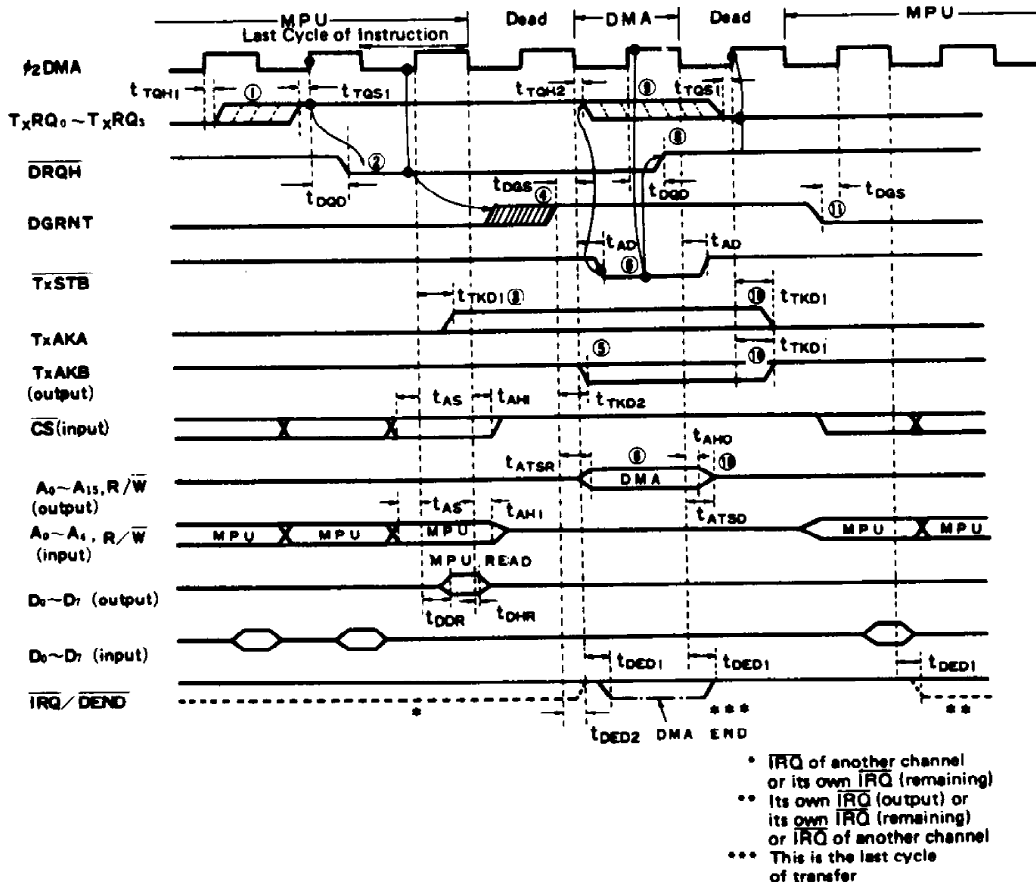
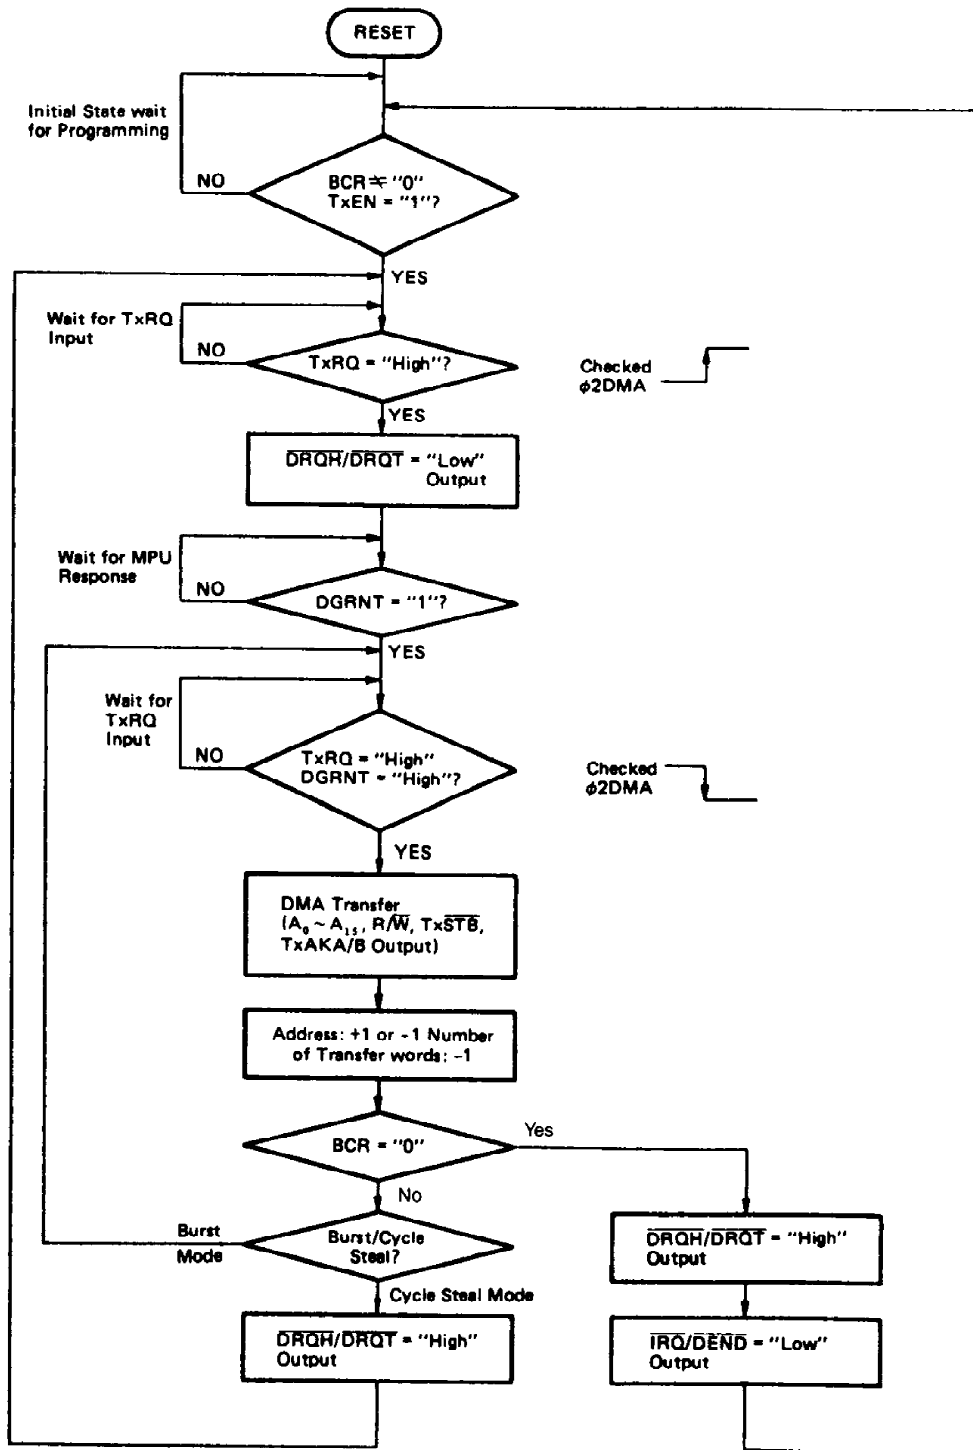
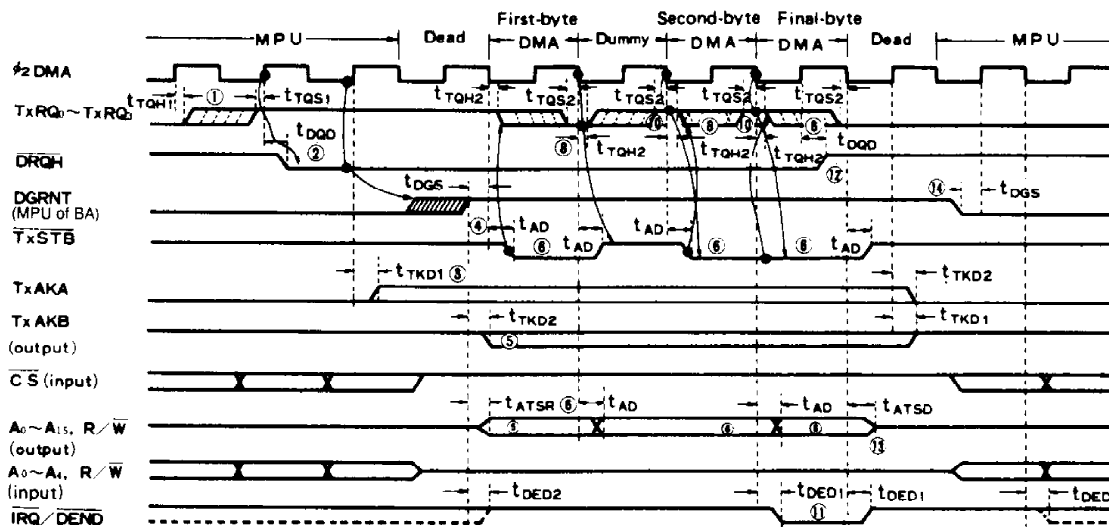
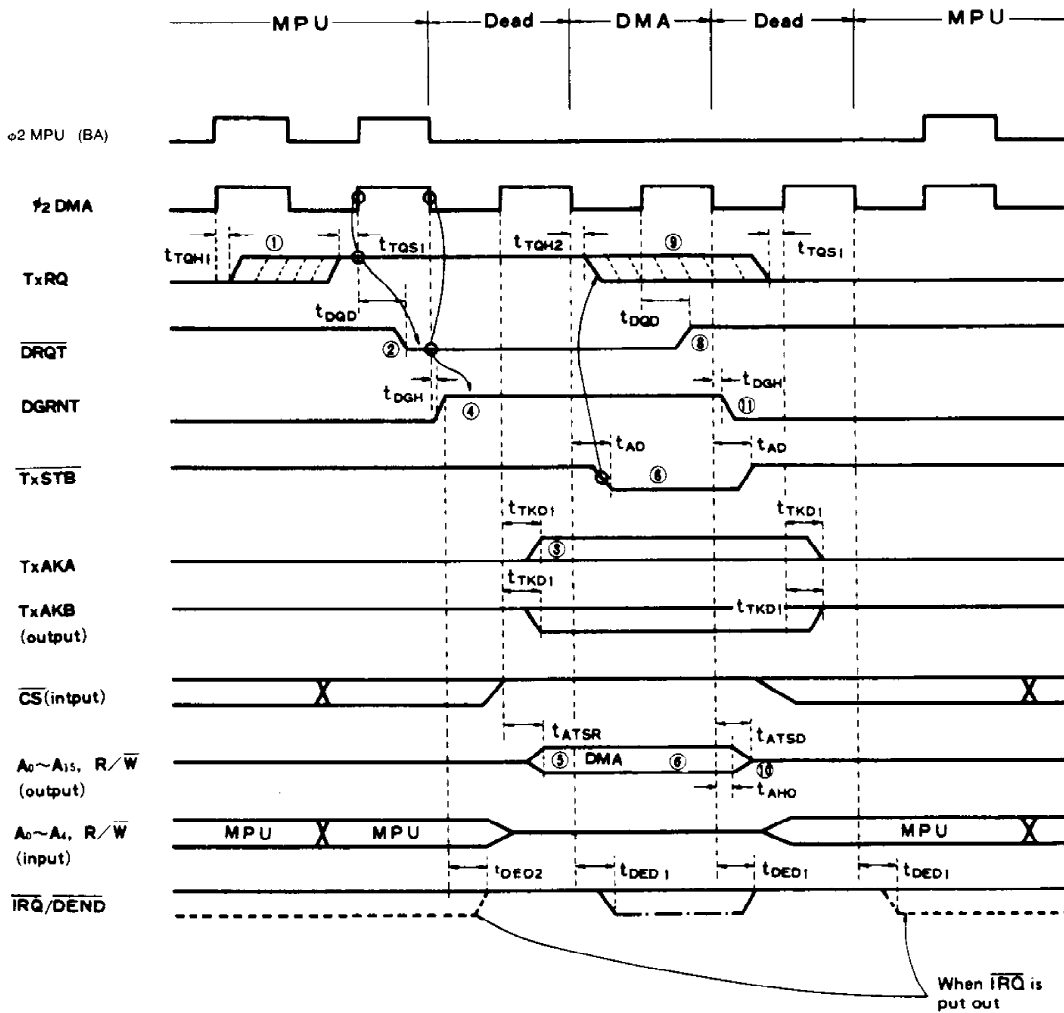

Figure 12 HALT Cycle Steal Mode
Figure 13 Flow Chart of DMAC Operation
Figure 16 HALT Burst Mode
Figure 17 TSC Cycle Steal Mode
Timing chart is shown in Fig. 12 and flow chart is shown in Fig. 13. Procedure of transfer operation is the following. (No. ① ~ ⑭ in Fig. 12 correspond to the following items.)
- ① TxRQ₀~TxRQ₃ input is checked at the rising edge of ϕ_2 DMA. When it is at "High" level, it gets into the following operation.
- ② \overline{DRQH} ="Low" is output and MPU is requested to stop its operation.
- ③ TxAKA is driven (Level output).
- ④ MPU stops its operation and DMAC waits until DGRNT goes to "High" level.
- ⑤ When DGRNT goes to "High" level, DMAC drives TxAKB, A₀~A₁₅ and R/W lines.
- ⑥ TxSTB is given to perform DMA transfer.
- ⑦ Address is incremented or decremented by one and number of transfer words is decremented by one.
- ⑧ When \overline{DRQH} rises to "High" level, MPU gets into Instruction Cycle again.
- ⑨ TxRQ falls to "Low" level.
- ⑩ A₀~A₁₅ and R/W get into high impedance state again.
[Note] TxRQ₀~TxRQ₃ input in HALT cycle steal is, in principle as shown in Fig. 12, set to "High" every 1-byte transfer on account of I/O request. When TxSTB of the DMAC is driven, it is reset to "Low". Take care not to be against this principle, or the following states may happen.
Its timing chart and flow chart are shown in Fig. 16 and Fig. 13 respectively. Procedure of transfer is the following (No. ① ~ ⑭ in Fig. 16 correspond to the following items).
- ① TxRQ input is checked at the rising edge of ϕ_2 DMA. When it is at "High" level, it gets into the following operation.
- ② \overline{DRQH} ="Low" level is given and MPU is requested to stop its operation.
- ③ TxAKA is driven.
- ④ MPU stops and DMAC waits for DGRNT rising "High" level.
- ⑤ When DGRNT rises "High" level, DMAC drives TxAKB, $A_0 \sim A_{15}$, and R/ \overline{W} lines.
- ⑥ TxSTB is sent out to perform DMA transfer.
- ⑧ TxRQ falls to "Low" level.
- ⑨ When number of transfer words is 0, from ⑪ to ⑭ operations are performed.
- ⑩ When BCR is not "0", TxRQ is checked at the falling edge of ϕ_2 DMA. When TxRQ is at "High" level, DMA transfer is performed through ⑥ ~ ⑧ again. When TxRQ is not at "High" level, DMAC waits for becoming "High" level.
In burst mode, TxRQ should be also, in principle, set to "High" when I/O request is asserted, and reset to "Low" when TxSTB goes to "Low". If TxRQ is asserted as level input without being reset, DMA transfer is performed at all cycles of ϕ_2 DMA since TxRQ is always at "High" level at the falling edge of ϕ_2 DMA. Its example is shown in the second-byte and the third-byte transfer in Fig. 16.
Its timing chart and flow chart are shown in Fig. 17 and Fig. 13 respectively.